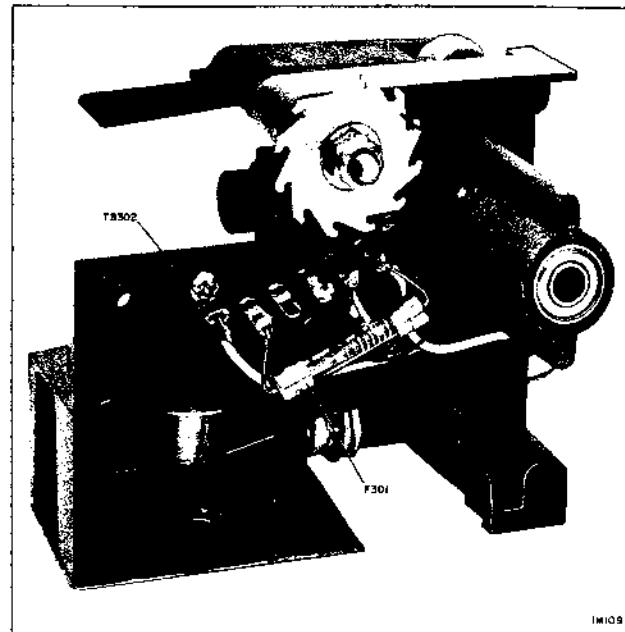

Figure 12
6. Connect leads to proper terminals on terminal strip TB 302 (figure 12).